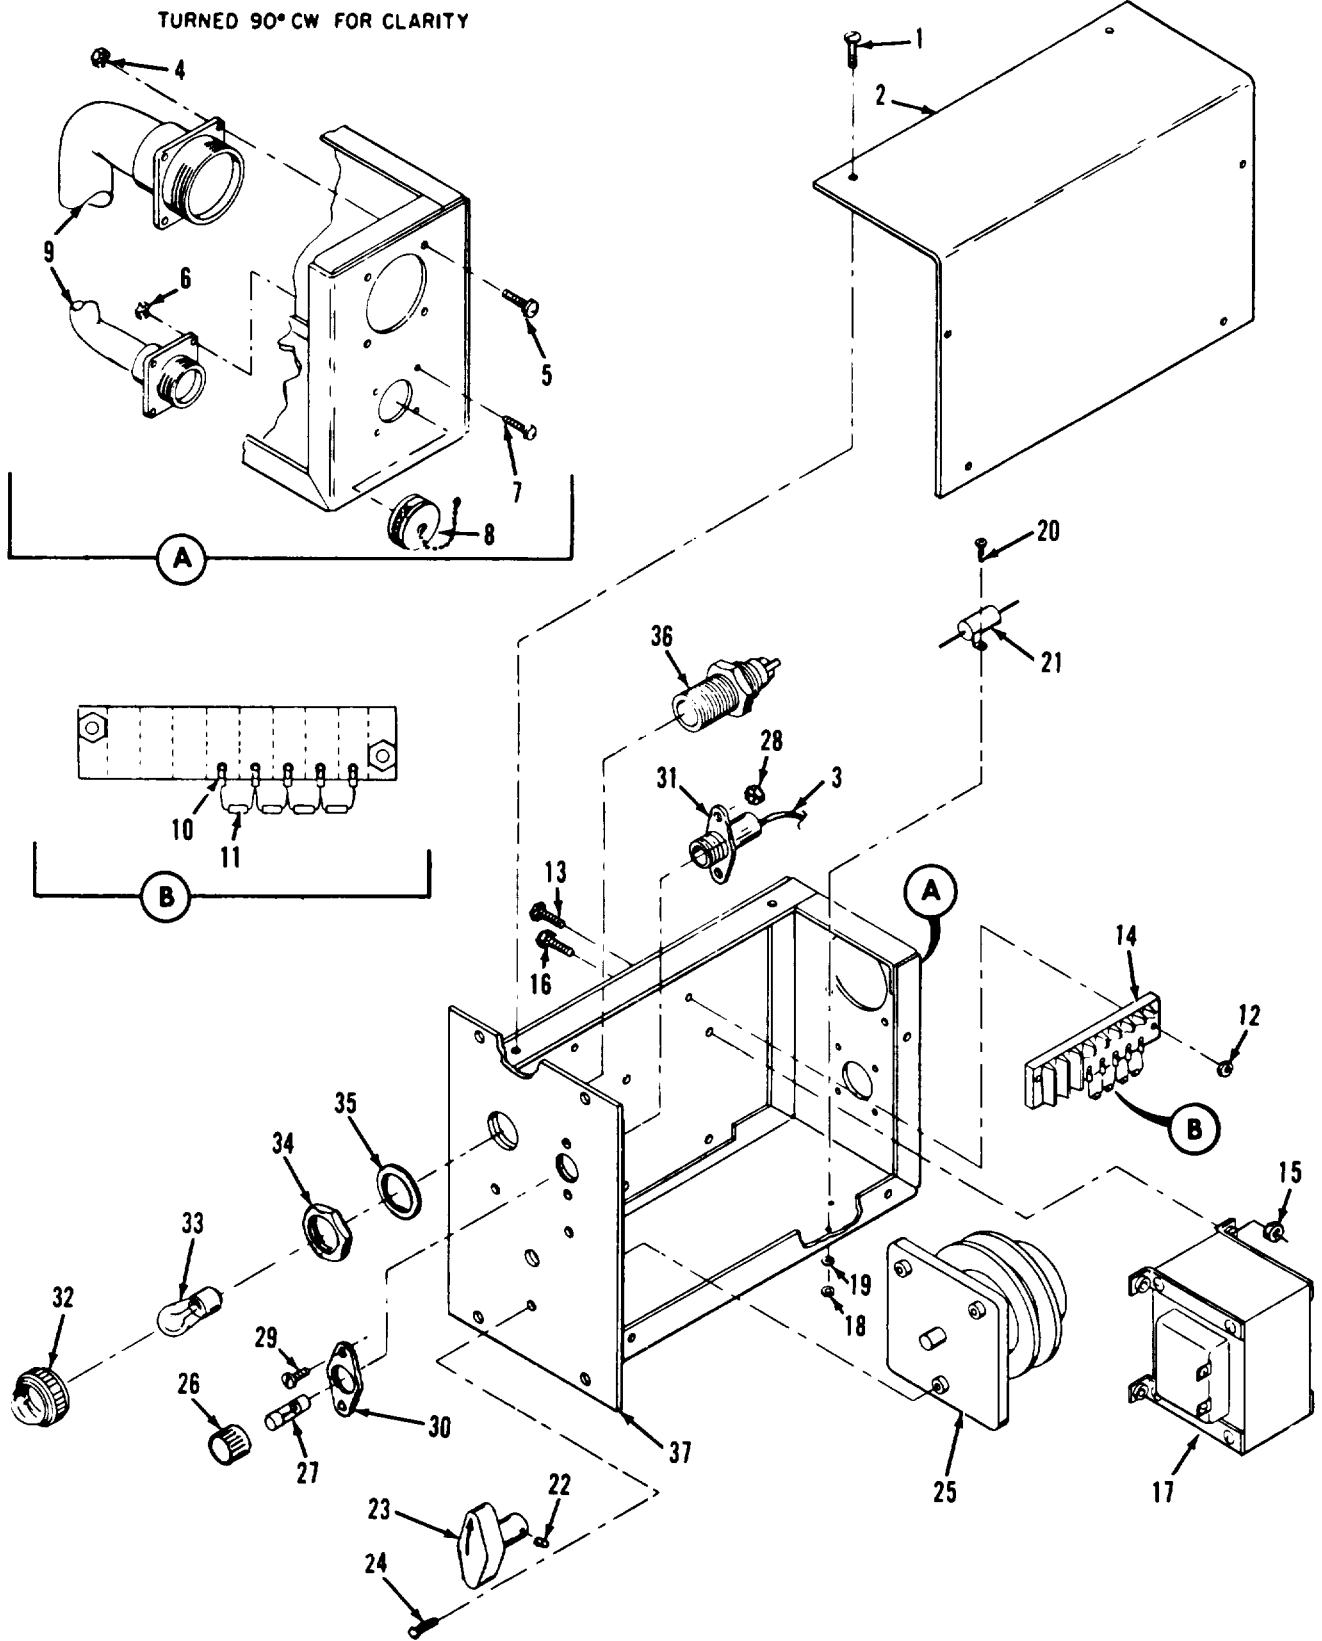

Figure 12-2. Electric winterization kit control box, exploded view
Refer to figure 12-2 and disassemble electric winterization kit control box in the order of index numbers assigned. Pay particular attention to the following:
Legend to figure 12-2:
h. Inspect harness (3, figure 12-2) wires for continuity, refer to figure 12-3.
i. Inspect harness (9, figure 12-2) connectors for bent, loose, or missing pins. Check each harness wire for continuity from wire ends to connector pins. Check connector pins for shorts to case and surrounding pins. Refer to figure 12-4.
b. Repair or rebuild defective harness (3, figure 12-2) as illustrated in figure 12-3.
c. Repair or rebuild defective harness (9, figure 12-2) as illustrated in figure 12-4.